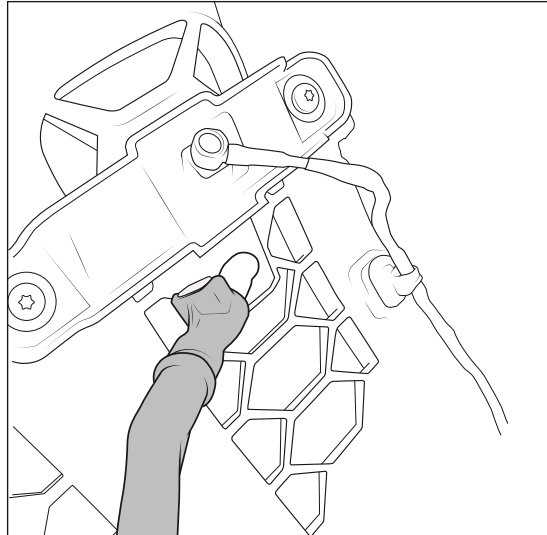

Figure 3
- C. Once the grill is loose, lean it forward to access the camera connections. Squeeze the quick connect at the washer nozzle to disconnect it and then disconnect the wiring connector from the grill (fig. 3).